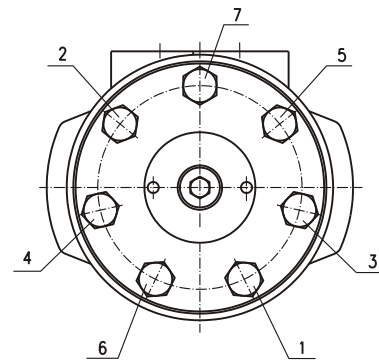

Fig.10
21. Install screws and washers in end cover. Tighten screws with $6 \div 6,5$ daNm torque using an S=17 mm spanner socket in sequence as shown in Fig.10.